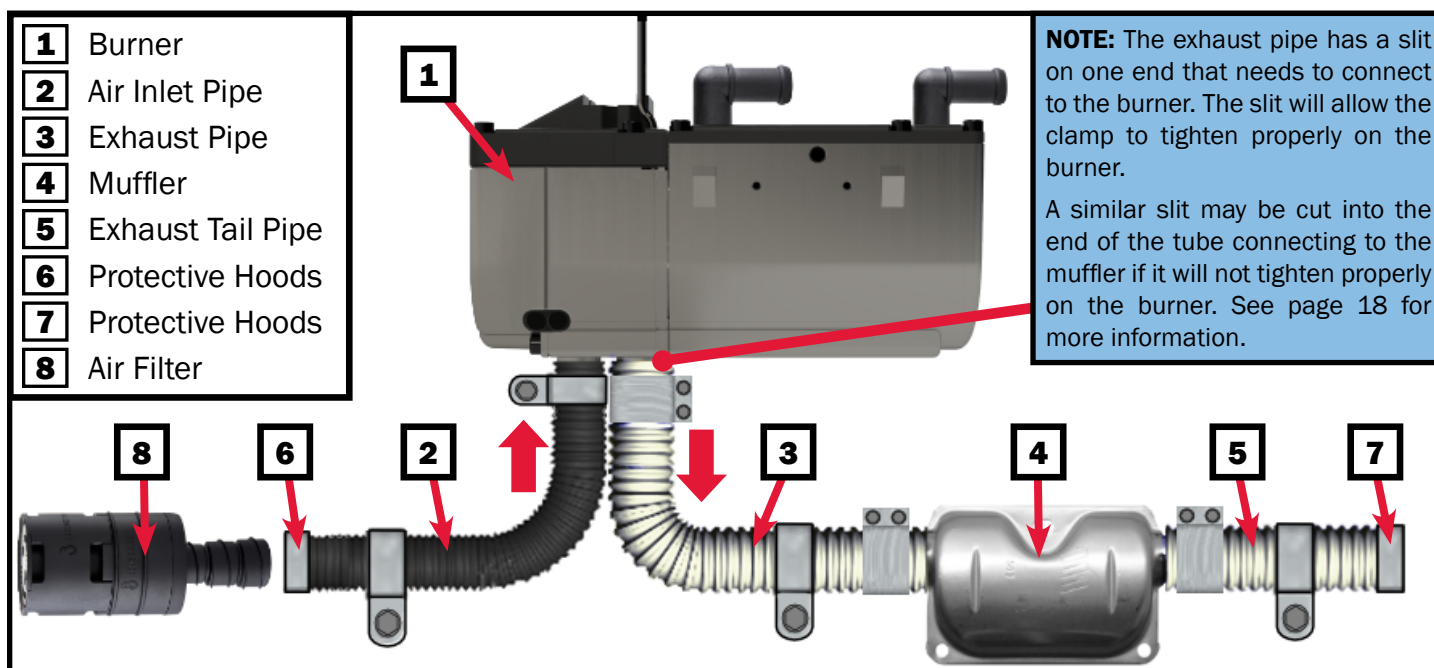

Figure 35
- Installation of air intake and exhaust system is shown in Figure 35.
- Reference the diagram in Figure 35.